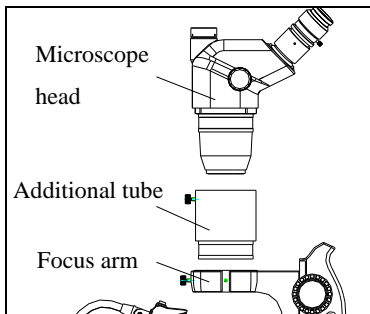

Figure 6
- (1) Set on auxiliary lens to the bottom of the microscope head.
- (2) It should use additional tube when use 0.5X auxiliary lens. (Fig. 6)